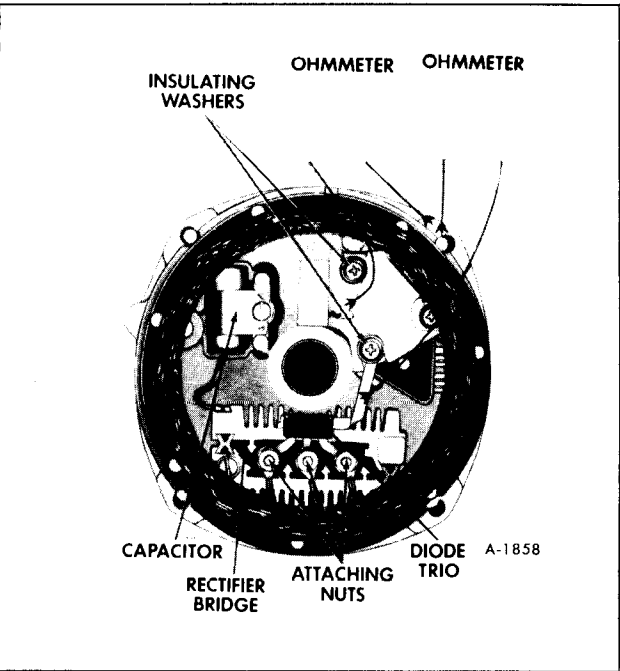
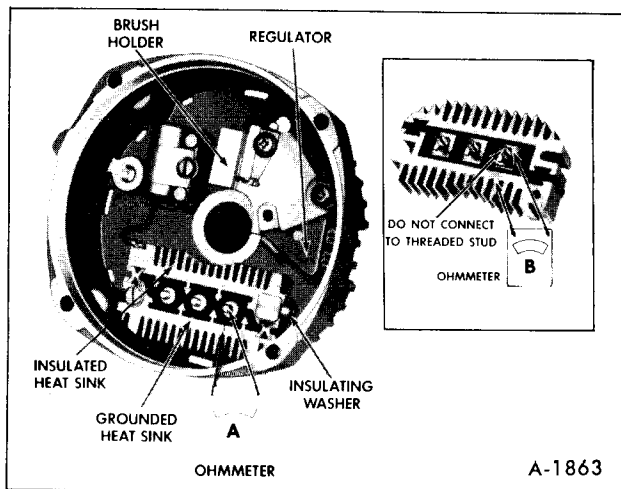

Figure 19–Slip Ring End Frame
Figure 24-Rectifier Bridge Check
- b. Connect ohmmeter using lowest range scale from brush lead clip to end frame as shown in Step 1 in Figure 19 then reverse lead connections.
- d. A grounded brush lead clip can result from omission of insulating washer (figure 19) omission of insulating sleeve over screw, or damaged insulating sleeve. Remove screw to inspect sleeve. If satisfactory, replace regulator.
9. If output is within 10% of rated output, replace the regulator (figure 19).
The diode trio is identified in Figure 19. First, connect an ohmmeter using lowest range scale from diode trio long connector to end frame as shown in Step 2, Figure 19, then reverse lead connections. If both readings are the same, check for grounded brush lead clip caused by omission of insulating washer (figure 19), omission of insulating sleeve over screw, or damaged insulating sleeve. Remove screw to inspect sleeve. **If screw assembly is correct, and both ohmmeter readings are the same, replace regulator.**
NOTE: Figures 19 and 23 illustrate two diode trios differing in appearance. Either one of these diode trios may be used in these generators, and the two are completely interchangeable.
To check the rectifier bridge, connect the ohmmeter to the grounded heat sink and one of the three terminals, (figure 24). Connect to flat metal connector, and not onto threaded stud. Then reverse the lead connections to the grounded heat sink and same terminal. If both readings are the same, replace the rectifier bridge. A good rectifier bridge will give one high and one low reading. Repeat this same test between the grounded heat sink and the other two terminals, and between the insulated heat sink and each of the three terminals. This makes a total of six checks, with two readings taken for each check.
To replace the rectifier bridge, remove the attaching screws, and disconnect the capacitor lead. Note the insulator between the insulated heat sink and end frame (figure 24). Rectifier bridges may vary in appearance but are completely interchangeable in these generators.
After removing the three attaching nuts, the stator, and diode trio screw (figure 24) the brush holder and regulator may be replaced by removing the two remaining screws. Note the two insulators located over the top of the brush clips in Figure 19, and that these two screws have special insulating sleeves over the screw body above the threads. The third mounting screw may or may not have an insulating sleeve. If not, this screw must not be interchanged with either one of the other two screws, as a ground may result, causing no output or uncontrolled generator